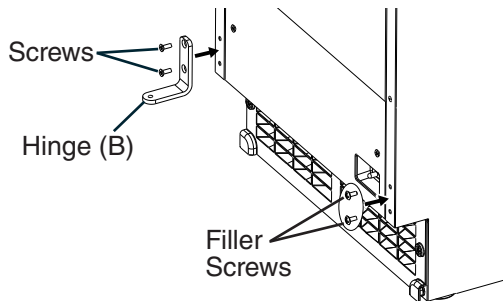

Fig. 13
- d) Remove hinge (B) from the right side of the unit and the 2 filler screws from the left side. Attach the 2 filler screws to the right side and attach hinge (B) to the left side. See Fig. 13.